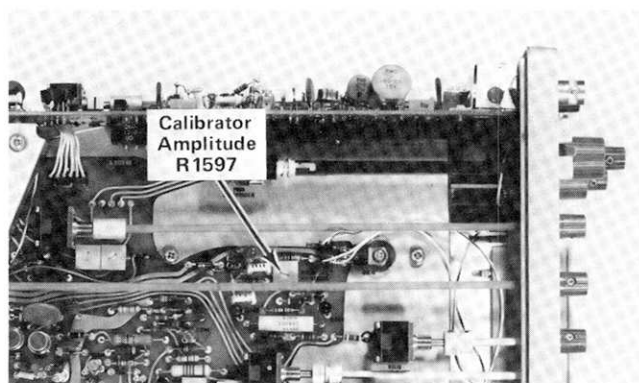

Fig. 5-35. Location of CALIBRATOR Amplitude adjustment.
d. ADJUST—Calibrator Amplitude adjustment, R1597, (see Fig. 5-35) for 0.3 volt, within 1% from 0°C to +40°C; for 0.3 volt, within 1.5% from -15°C to +55°C.